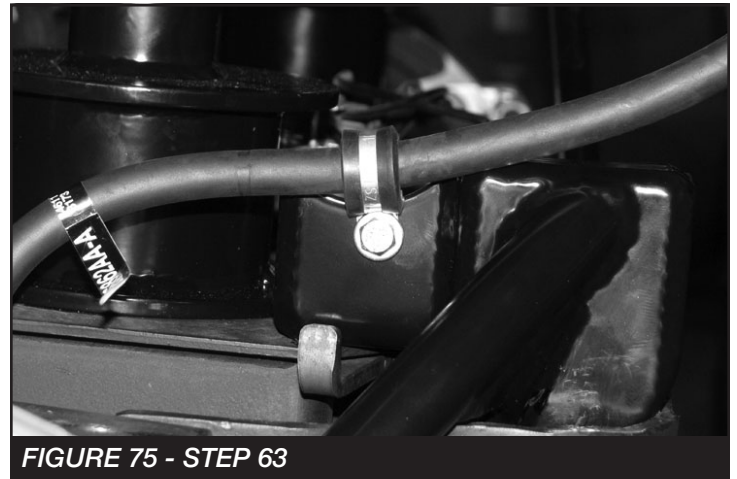

FIGURE 75 - STEP 63
63. Locate the supplied 1/4"-20x 1" bolt, nut, washers and FTCLAMP-LB10 rubber cushioned clamp and install on the rear axle breather tube, mounting it to the hole provided on the new track bar bracket. Torque to 14 ft-lbs. **SEE FIGURE 75**